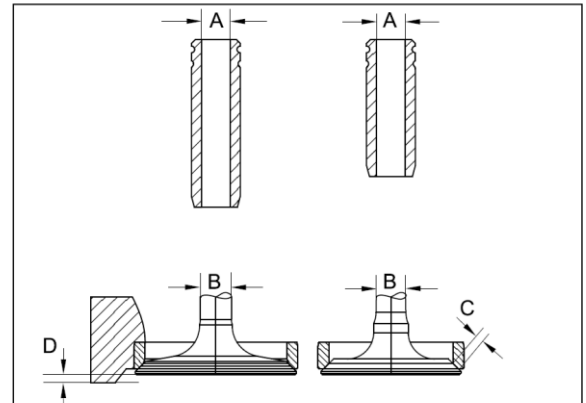

Fig. 7.6
6. Dimensions of Valves, Guides and Seats after assembling in Cylinder Head (mm) (Fig. 7.6)